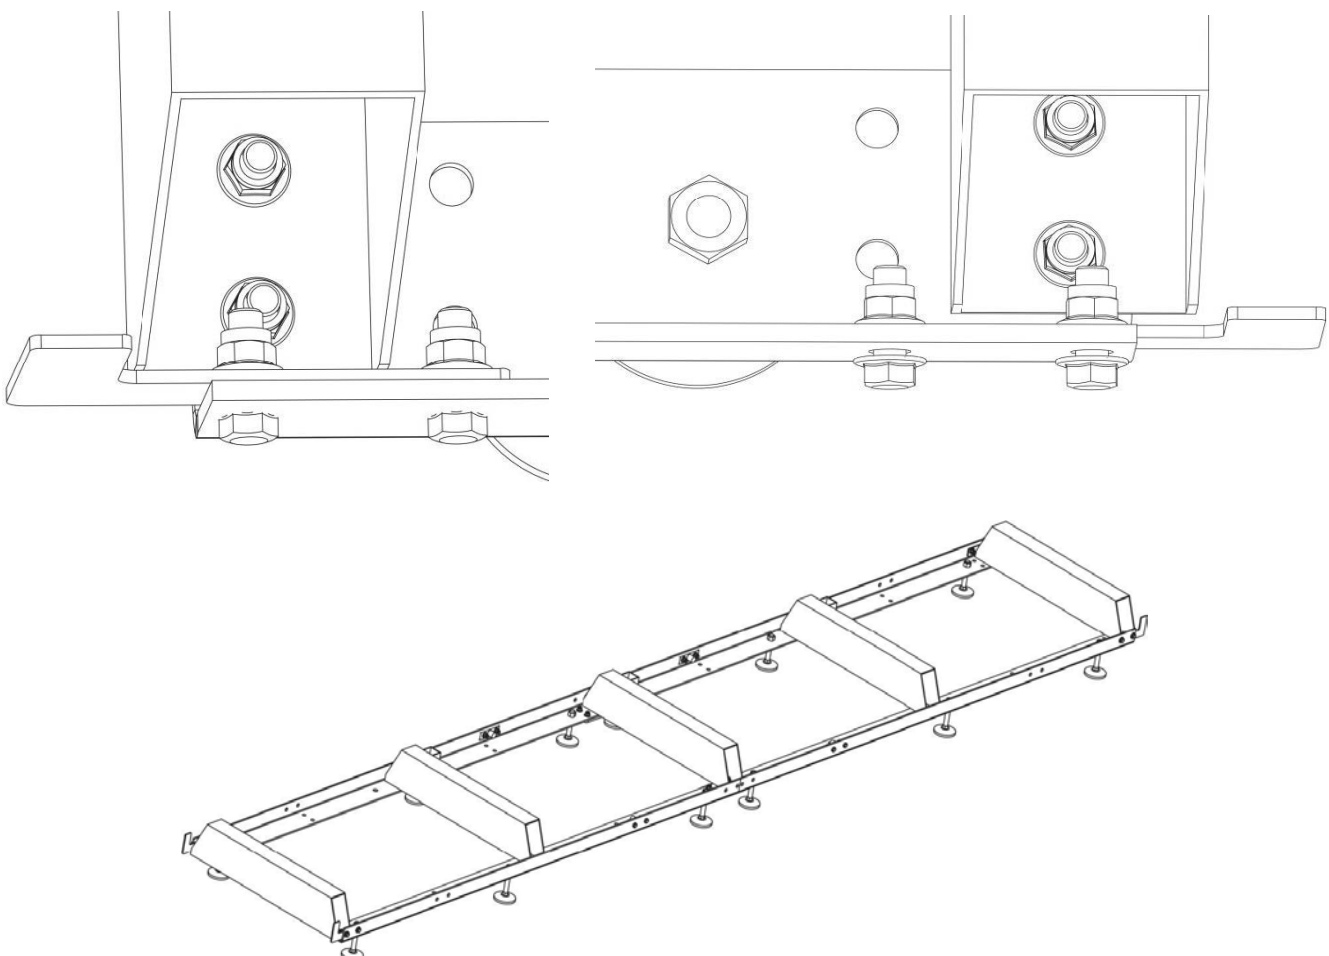

Fig.5-3: Assembly of carriage stop
3. Mount the carriage stops (Fig. 5-3) at the ends of the rail (4 stops in total) and tighten them.